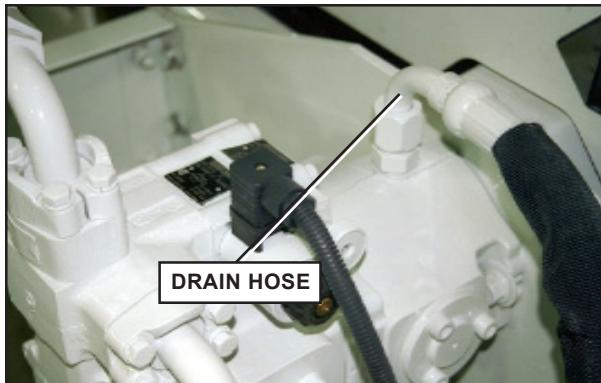

FIGURE 13.14
5. Remove the drain hose from on pump housing (figure 13.14).